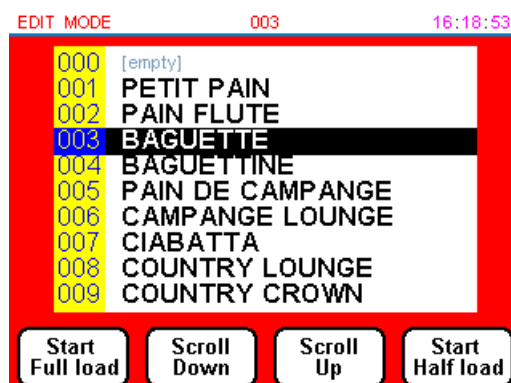

FIG 9
3. Enter pass code (default 111111). Fig 9 will appear.